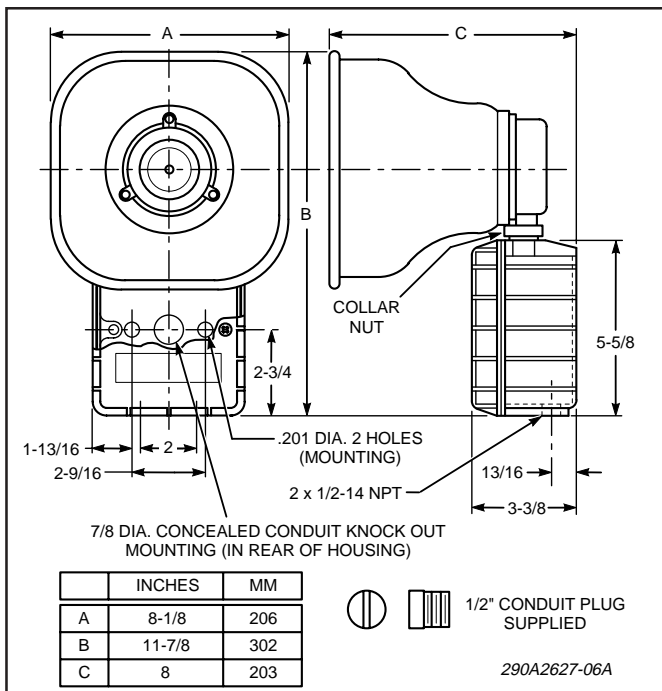

Figure 1. Model SPHP Speaker Dimensions.
#### B. Mounting Arrangements (see figure 1).
c. Using the mounting holes (two (2) inside housing) as a template, scribe drill position marks on the mounting surface. See figure 1 for mounting hole locations and dimensions.
f. Reposition speaker projector if necessary to obtain desired sound coverage. Loosen collar nut (see figure 1) and move projector to desired position.
e. Using the two (2) mounting holes as a template, scribe drill position marks on the mounting surface. See figure 1 for mounting hole locations and dimensions.
g. Reposition speaker projector if necessary to obtain desired sound coverage. Loosen collar nut (see figure 1) and move projector to desired position. Install two 1/2" conduit plugs in the unused bottom entryways (one plug supplied).